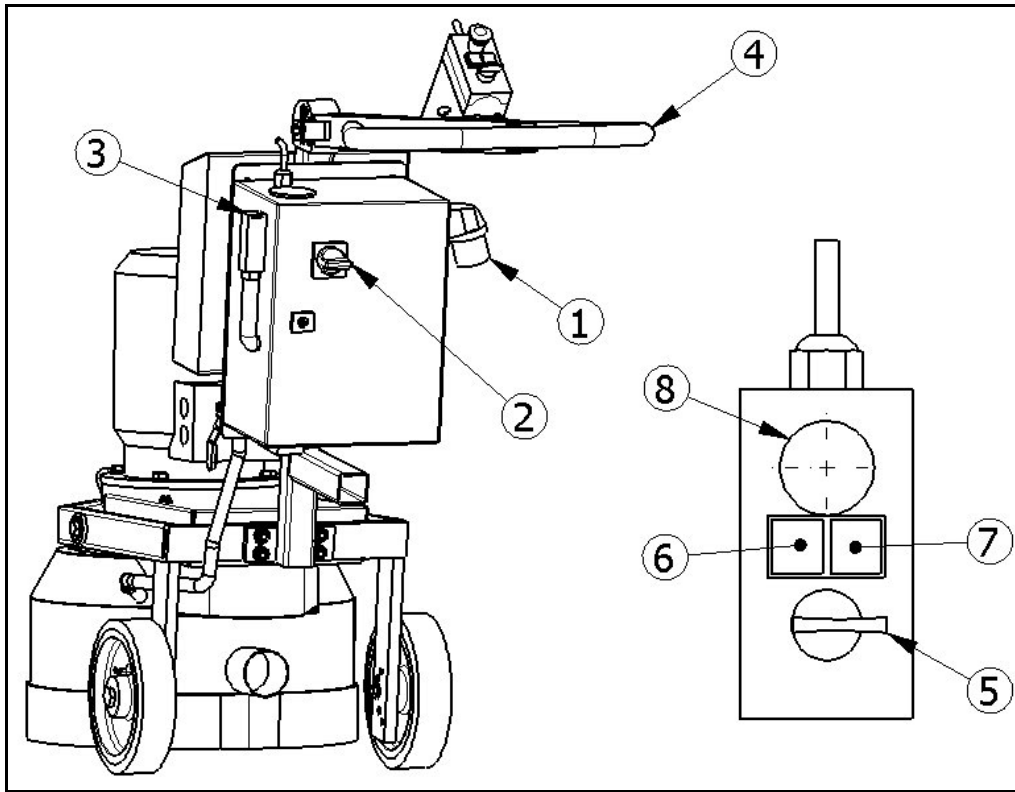

Fig. 5.1
To switch off the machine, push the red “**STOP**” button on the operator control panel (7). See Figure 5.1 in Section 5.2 for additional details.